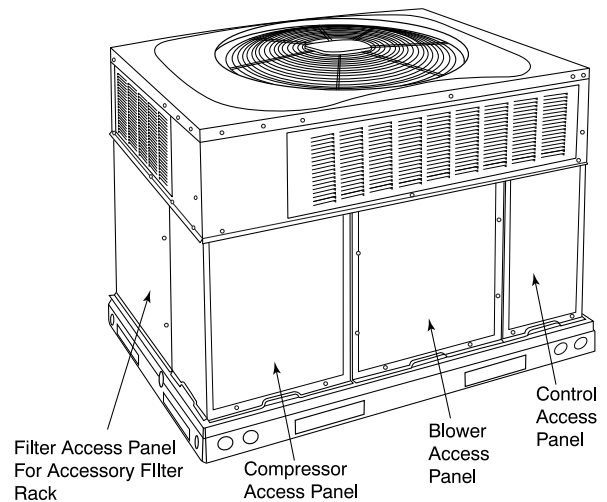
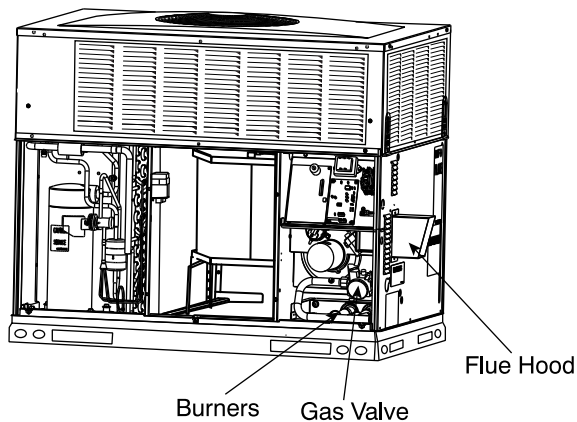
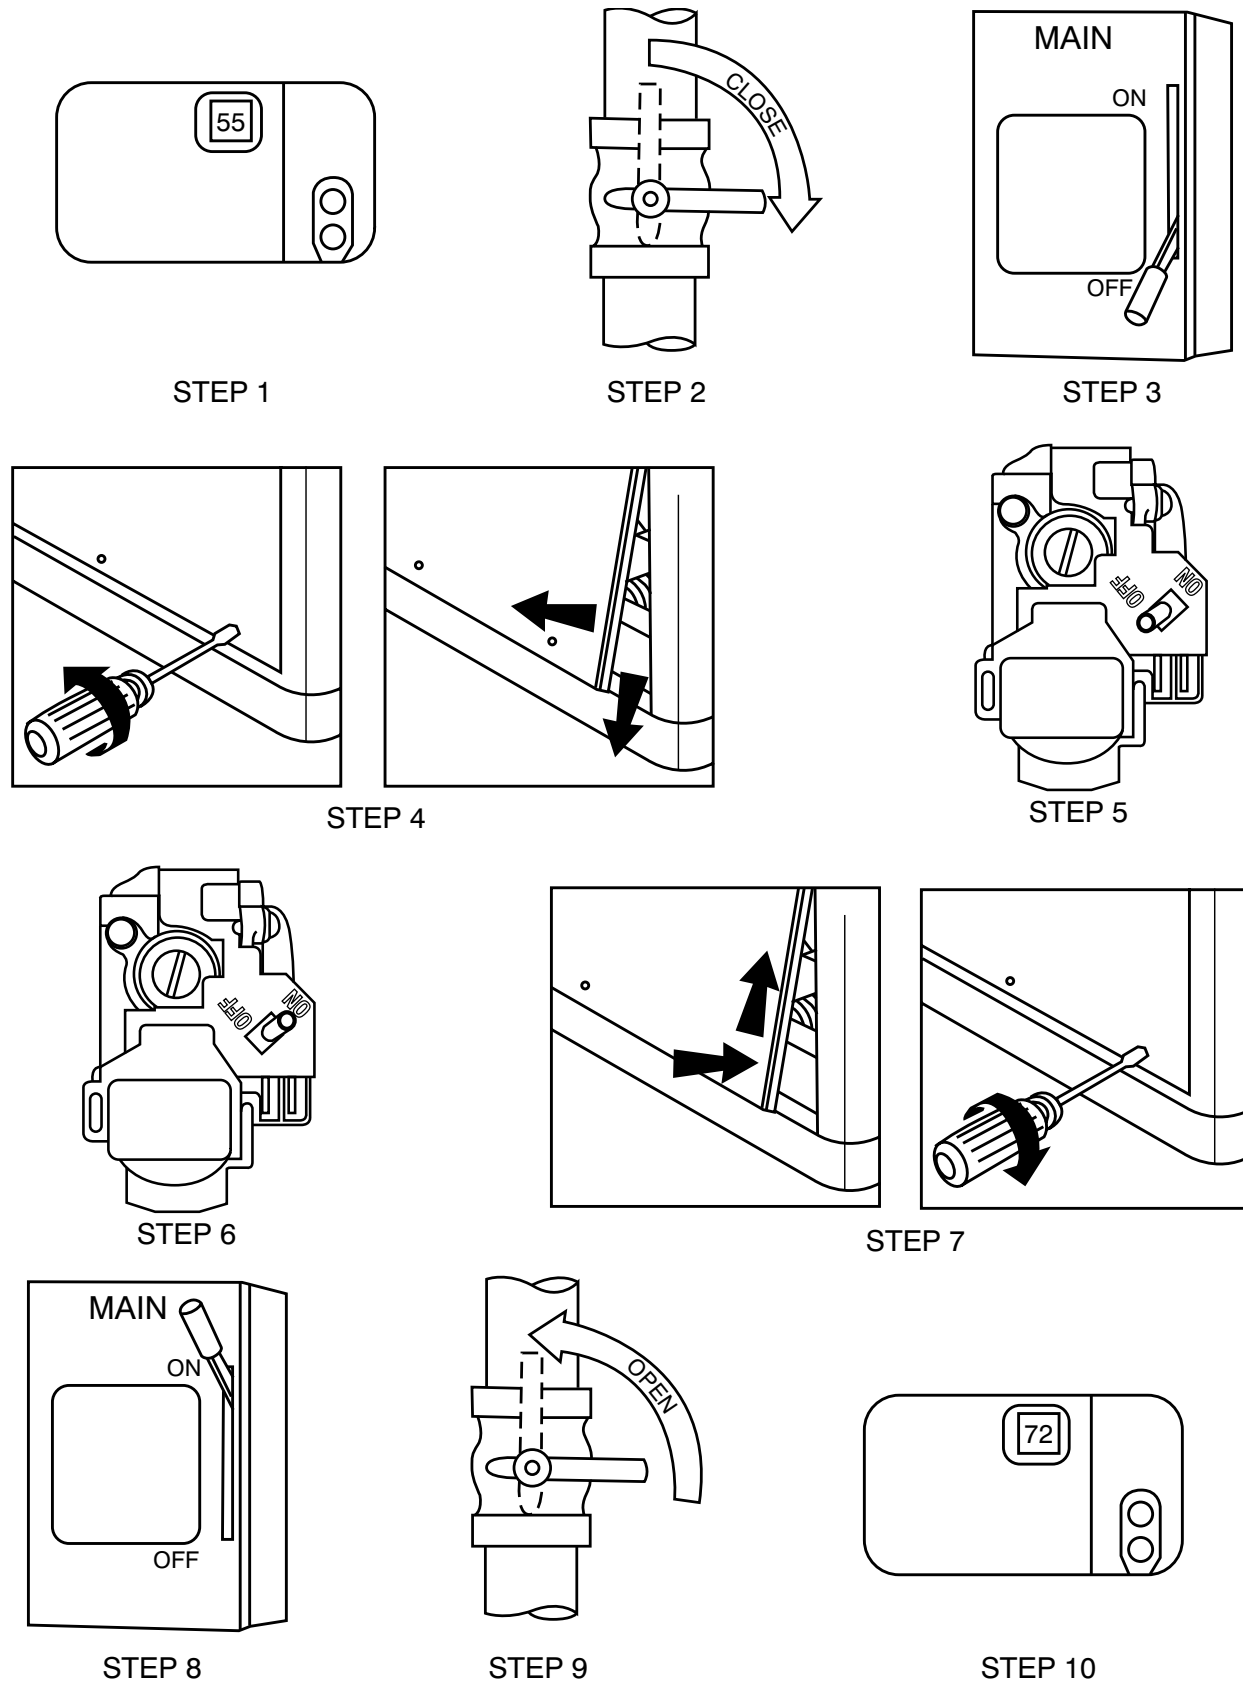

Fig. 2 – Unit Access Panel
Fig. 3 – Gas Heating/Electric Cooling Unit with Access Panel^{A14490}
Fig. 4 – To Start Unit Gas Heat
Refer to Fig. 2 for location of unit front access panel. Refer to Fig. 3 for location of gas valve. Refer to Fig. 4 while proceeding with the following steps.
4. Remove the control access panel with a 5/16-in. nut driver. (See Fig. 2.)
4. Remove the control access panel. (See Fig. 2.)
To replace or inspect filters in accessory filter rack (See Fig. 2):